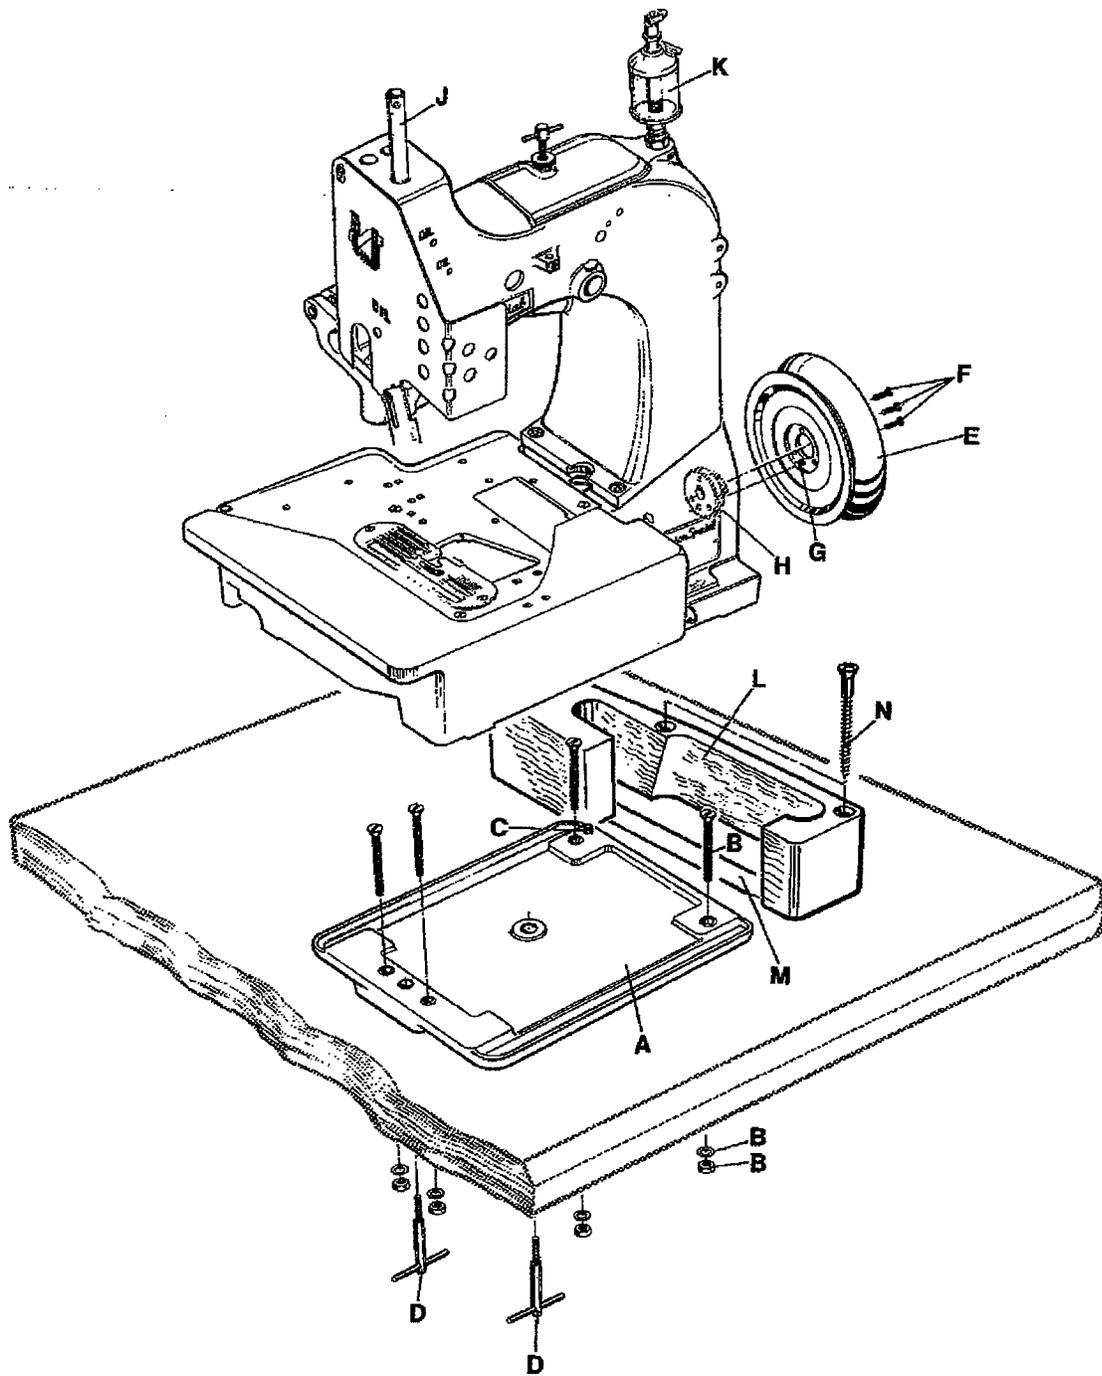

Fig 6
2. Mount the base plate (A, Fig. 6) with four screws, nuts and washers (B) in the provided holes on the table board.
3. Place the sewing machine on the base plate so that the roll pin (C) in the base plate engages with the right rear hole in the machine base.
4. Fasten the sewing machine with the two T-screws (D) on the base plate.
6. Assemble the handwheel pulley (E) with three countersunk screws (F) to the sewing machine. Pin (G) must engage with the hole in hub (H).
7. Screw in needle bar guard (J).
8. Screw in sight feed oiler (K).
9. Align the handwheel belt guard (L) with the V-belt slot (M) in the table board and with the handwheel pulley and fasten it with two wood screws (N) on the table board.